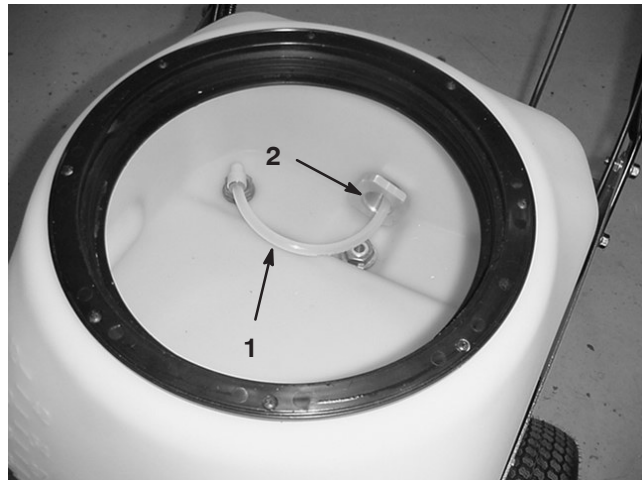

Figure 30
3. Inside the paint tank, insert the agitation line into the drain valve, as shown in figure 30.